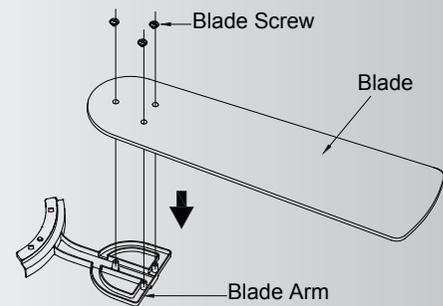

Fig. 18
**Step 1.** Position the blade over the blade arm with threaded posts showing. Make sure the bottom edge of the blade is fully seated against the blade arm. With a Philips screwdriver, start a screw into the blade arm (do not tighten) and repeat for the 2 remaining blade screws. Tighten each screw securely starting with the center screw. Make sure the blade is straight. Repeat steps for the remaining blades. (Fig. 18)